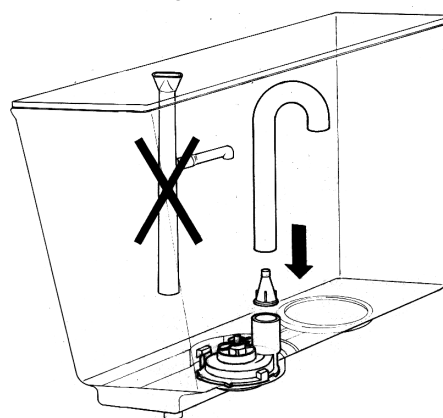

figure 2
- 6 - To reduce foam on certain beverages when agitated (such as coffee, tea, almond milk), a flow reducer and a bent tube are available (see figure 2).